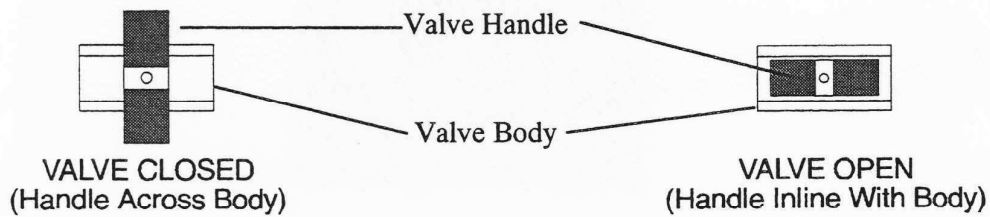
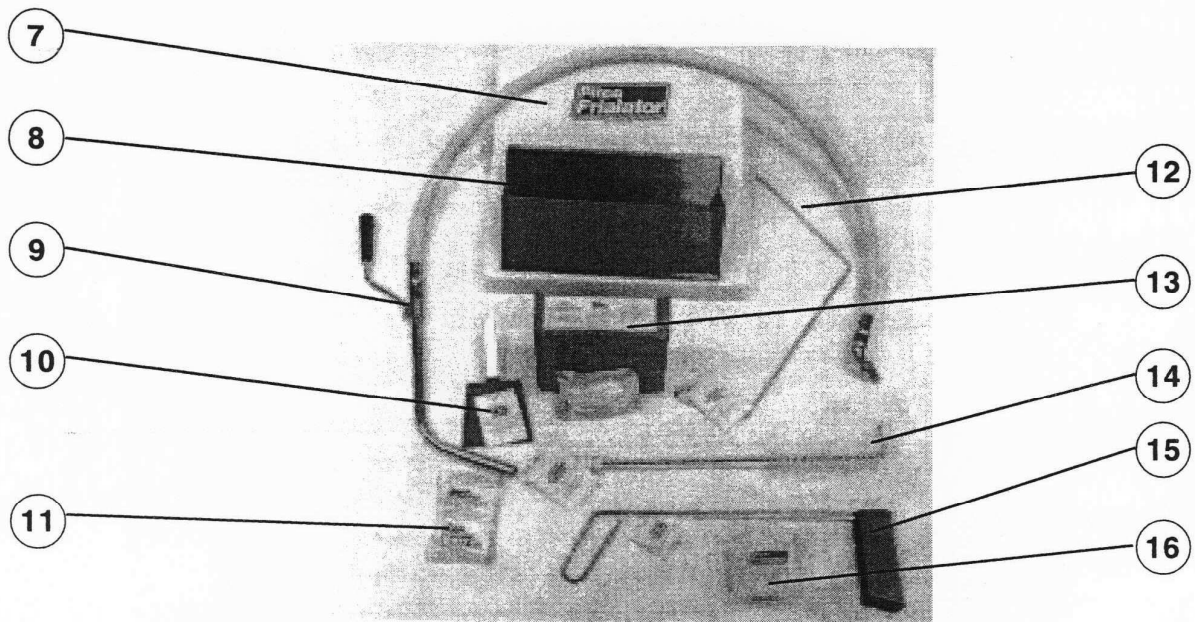

Figure 2-1 Fryer Illustrating Filter Components
Figure 2-2 Filter Tools and Accessories
This section describes the procedures used to filter fryers using either the UFM or built in filter units. Figure 2-1 shows the locations of the components used in the filter process. The fryer in Figure 2-1 is a UFM filtered unit. The callouts in the figure point to the components discussed in the filter procedure. These component locations should be representative of either filter system. Figure 2-2 shows the filter accessories and tools you should have to perform normal filtering operations. The components and accessories are described after Figure 2-2. The illustrations used with the filter procedures are provided to show where the oil is going and which valves are open. Frequent filtering of your shortening will prolong the shortening's usable life. Daily shortening filtering is strongly recommended.
**2.6.2 Filter Procedures:** Numbers in parenthesis refer to Figures 2-1 and 2-2.